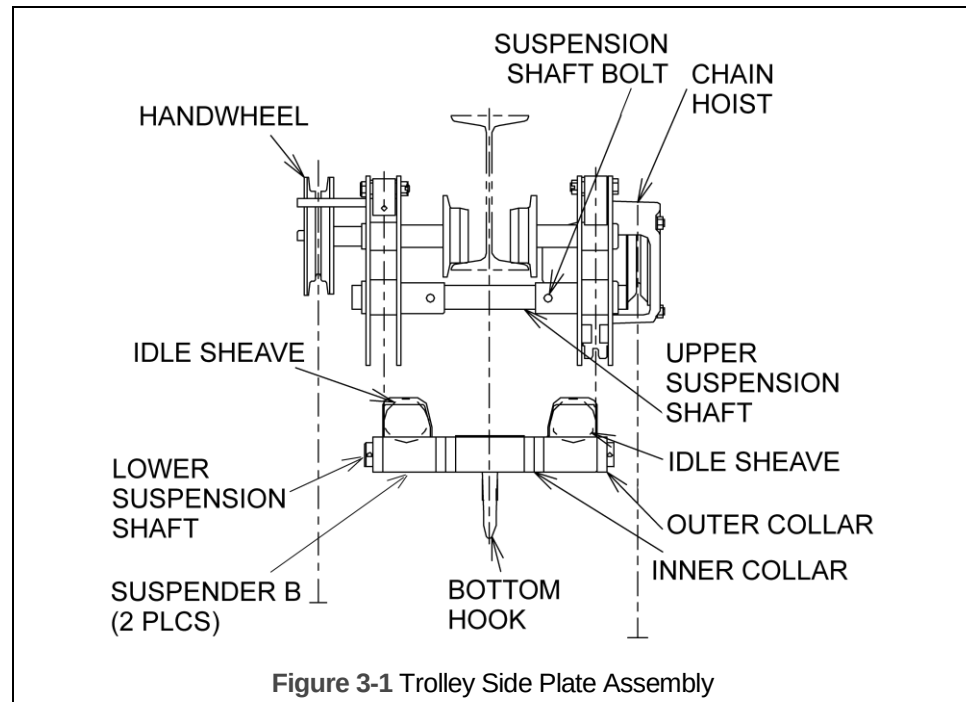

Figure 3-1 Trolley Side Plate Assembly
- 3.1.2 To adjust the Upper Suspension Shaft reference Figure 3-1 and Table 3-2. Proceed with the following instructions:
- 3.1.3 To adjust the Lower Suspension Shaft reference Figure 3-1 and Table 3-3. Proceed with the following instructions:
2. To make the adjustment, replace the inner and outer collars as shown in Figure 3-1.
5. For designations such as "X + Y", "X" is on the trolley hand wheel side and "Y" is on the hoist (CB) side.